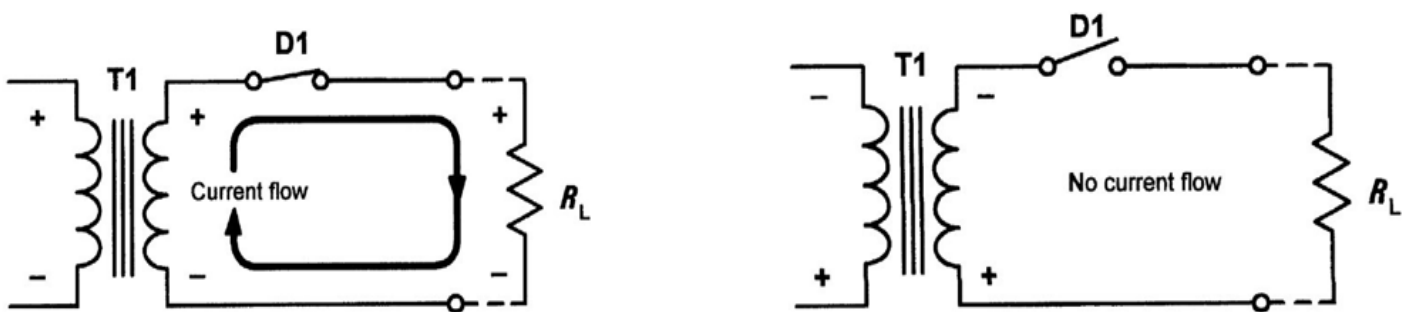

Fig. 1.3: (a) D1 conducting (positive half cycle)
- **Operation:** Diode D1 will allow the current to flow in the direction is shown in fig. 1.3.